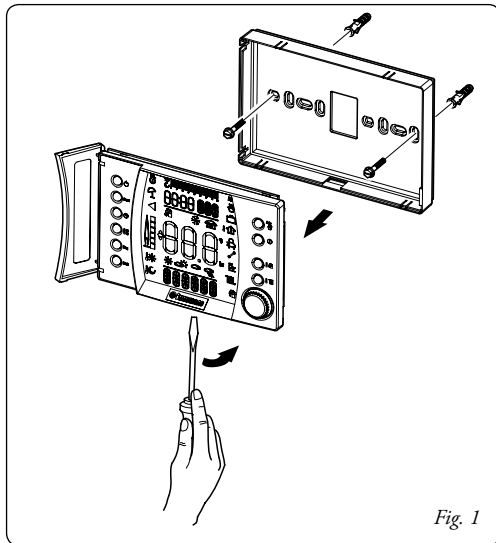
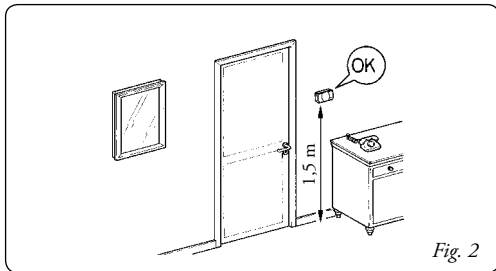

Fig. 1
Fig. 2
- 1) Separate the fixing template from the body of the Digital Remote Control, using a screwdriver to lever it out (Fig. 1). Install the Super CAR away from sources of heat and where the room temperature can be read correctly (Figs. 2 and 3).
- 2) Install the Super CAR directly on the wall using the holes drilled at the back of it (Fig. 1) or in a recessed box using the screws supplied with it.
- 4) Fix the body of the Super CAR to the support template, pressing it into place (Fig. 1).